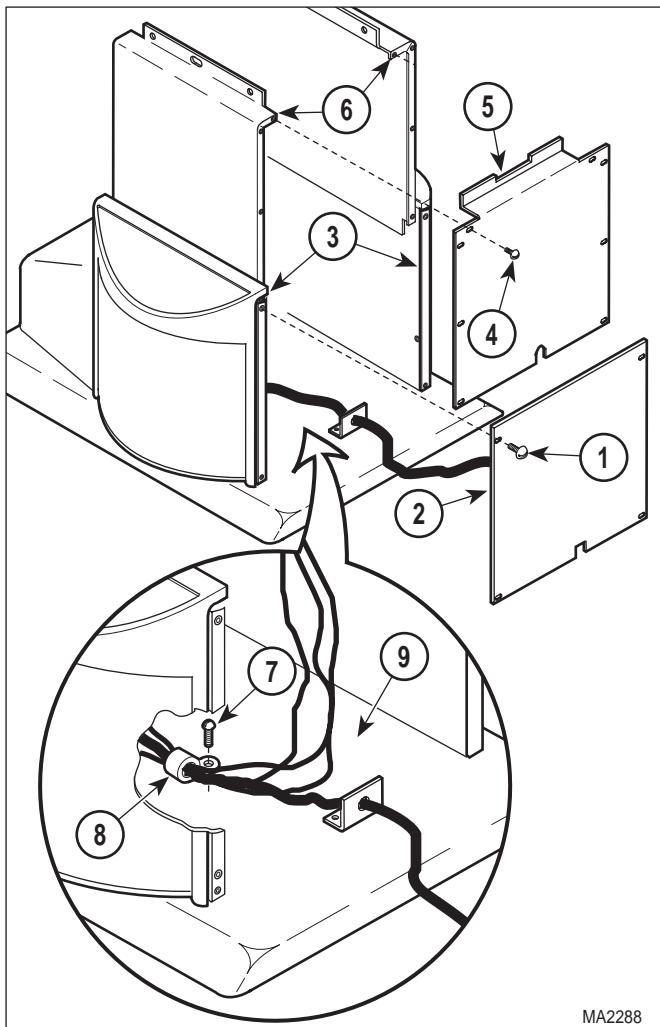
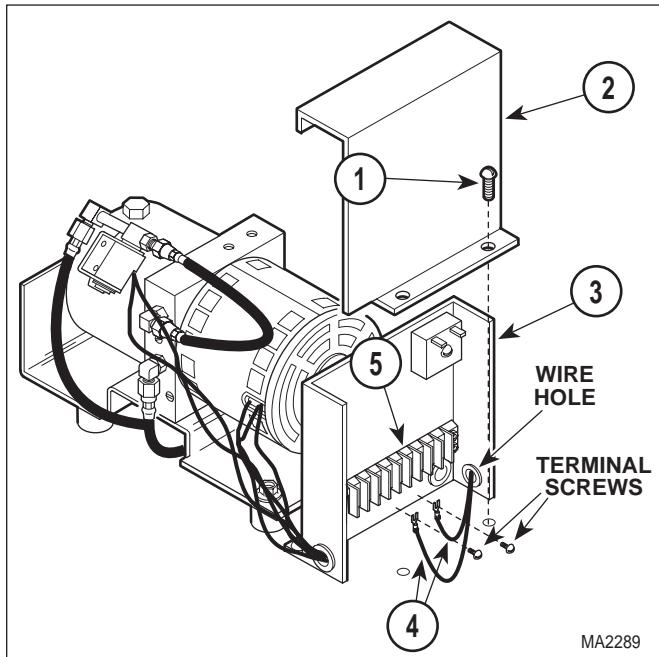
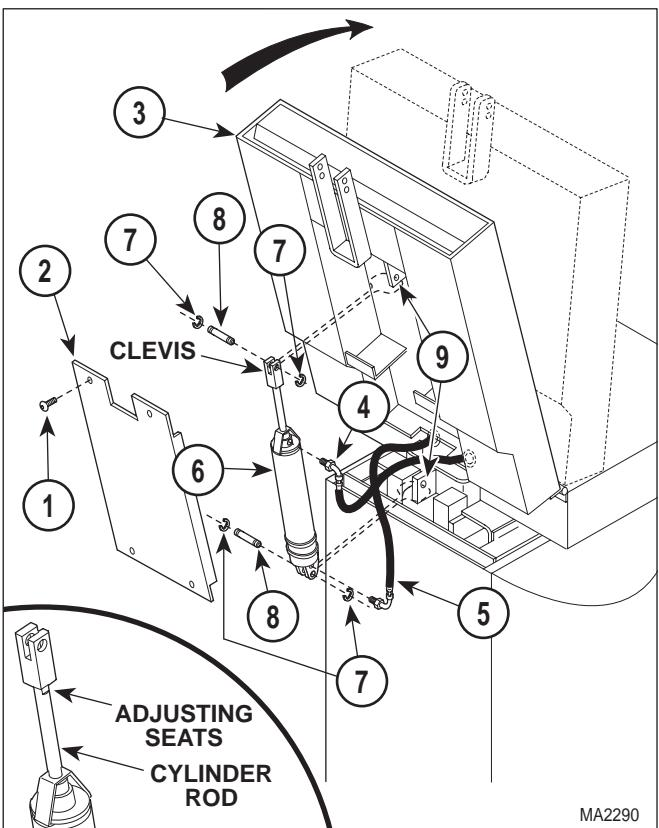

Figure 4-11. Table Access
Figure 4-12. Back Cylinder Wires Disconnection / Connection
Figure 4-13. Back Cylinder Removal / Installation
- (3) Remove four screws (1, Figure 4-11) and front outer shroud (2) from left and right hand outer shrouds (3).
- (4) Remove eight screws (4) and front inner shroud (5) from left and right hand inner shrouds (6).
- (5) Remove screw (7) and wire clip (8) securing wires and hoses to base weldment (9).
- (6) Remove motor cover assembly (Refer to para 4.2)
- (7) Remove two screws (1, Figure 4-12) and control cover (2) from control panel (3).
- (8) Loosen two terminal screws; then tag and disconnect back cylinder wires (4) from terminal block (5).
- (9) Pull back cylinder wires (4) out thru wire hole.
- (10) Remove four screws (1, Figure 4-13) and back cover (2) from back weldment (3).
- (11) Cut two cable ties which are securing hose assemblies (4 and 5) to back cylinder (6).
- (12) While supporting back weldment (3), remove four E-rings (7), two clevis pins (8), and partially separate back cylinder (6) from cylinder brackets (9). Fold back section over onto seat section.
- (13) Tag hose assemblies (4 and 5).
(1) Connect hose assembly (5, Figure 4-13) to back cylinder (6).
(2) Connect hose assembly (4) to back cylinder (6).
(3) Install back cylinder (6) on cylinder brackets (9) and secure with two clevis pins (8) and four E-rings (7).
(4) Secure hose assemblies (4 and 5) to back cylinder (6) with two cable ties.
(5) Route back cylinder wires (4, Figure 4-12) thru table.
(6) Feed back cylinder wires (4) thru wire hole.
(7) Connect two back cylinder wires (4) to terminal block (5) and secure by tightening two terminal screws.
(8) Install control cover (2) on control panel (3) and secure with two screws (1).
(9) Secure wires and hoses to base weldment (9, Figure 4-11) with wire clip (8) and screw (7). Install any cable ties removed during removal.
(10) Install front inner shroud (5) on left and right hand outer shrouds (6) and secure with eight screws (4).
(11) Install front outer shroud (2) on left and right hand inner shrouds (3) and secure with four screws (1).
(12) Install upholstered seat section (Refer to steps 8 thru 10 of para 4.29B, steps 6 thru 10 of para 4.30B, or step 6 of para 4.30.1B).
(13) Plug table power cord into outlet.
(14) Lower BACK DOWN function all the way down.